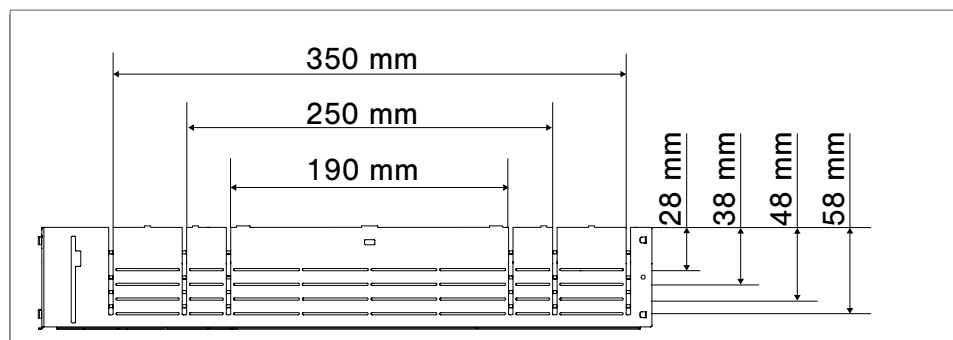

Fig. 30: Cutting the side wall – assignment of the duct height and width
2. Turn the underfloor box ① through 180°.
3. Cut the bridges of the side wall ②¹ according to the required duct height and duct width (see Fig. 30: Assignment of duct height/width).